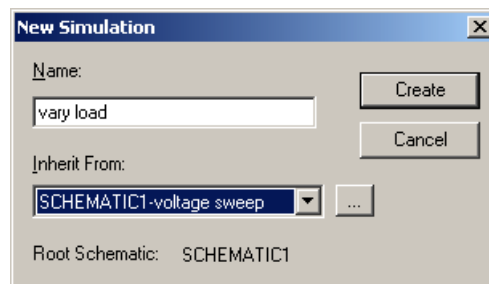
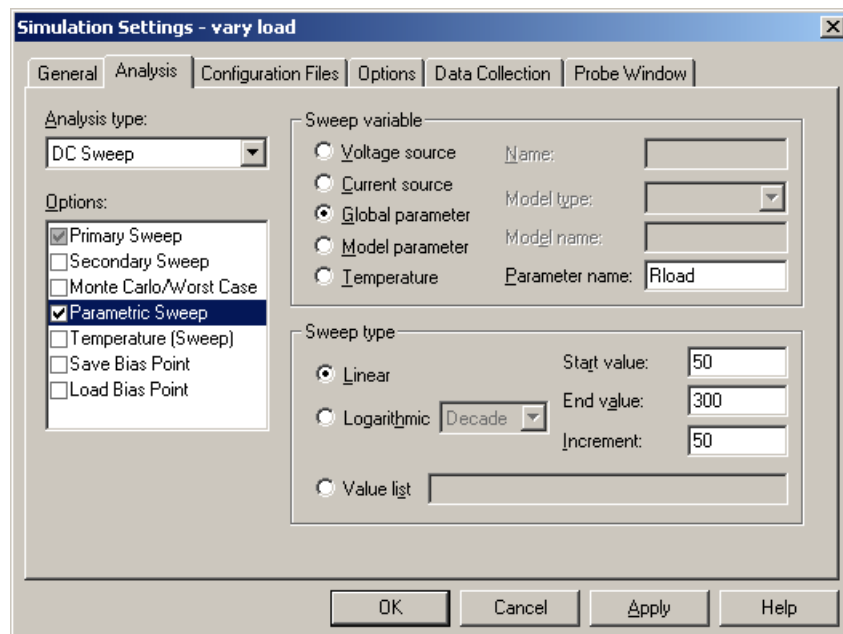
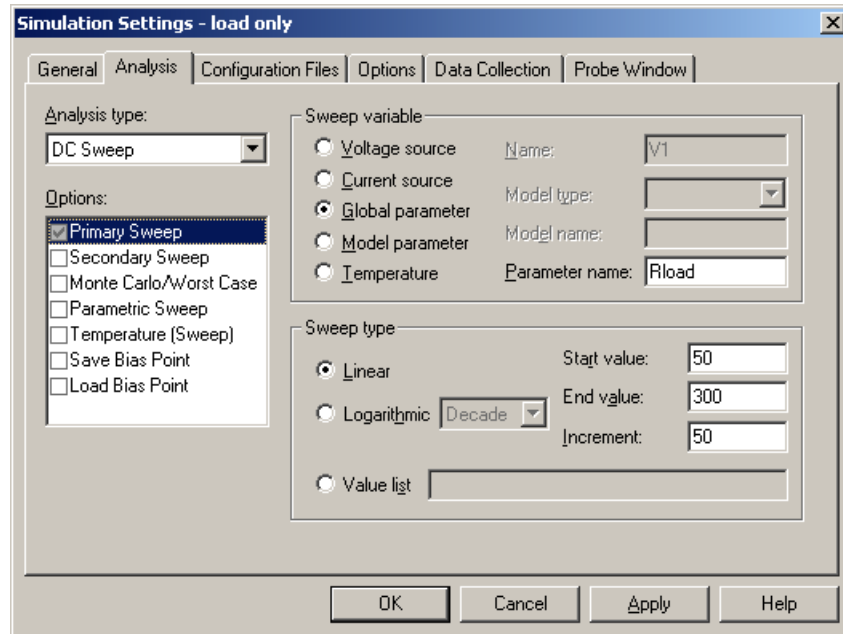
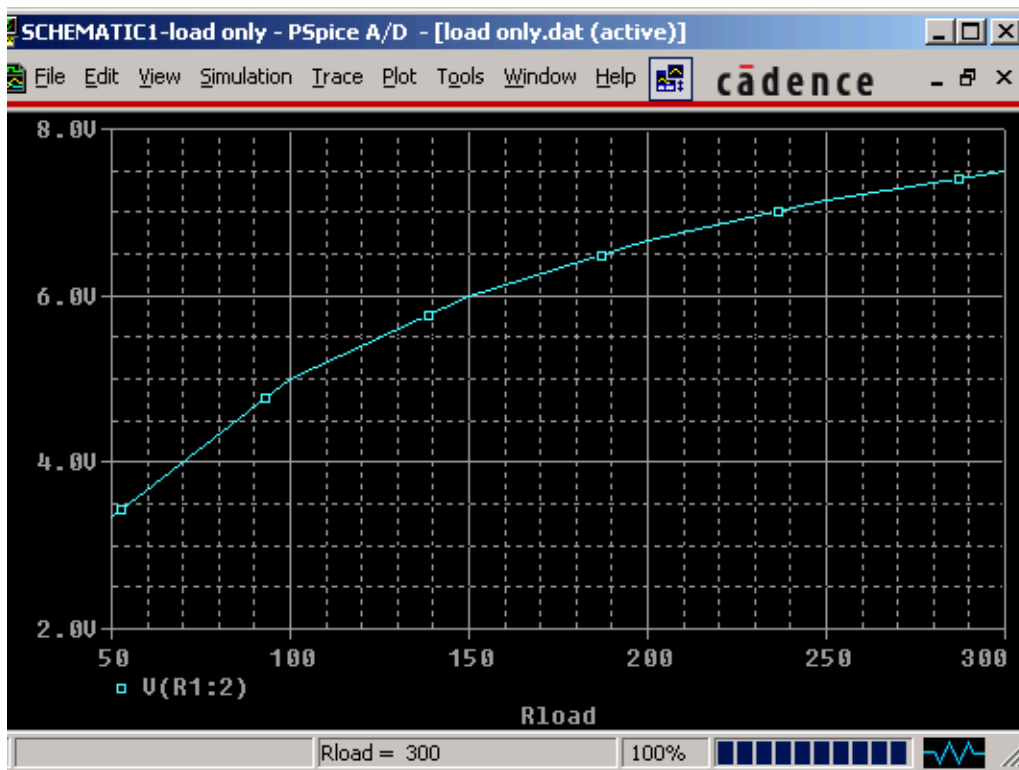

Figure 21. Dialogue box to create a new simulation profile, vary load, based on the previous profile voltage sweep.
Figure 22. Simulation settings for adding a parametric sweep to the previous DC sweep.
Figure 24. Simulation settings for a parametric sweep alone. The Analysis type is DC sweep.
Figure 25. Plot of voltage as a function of Rload.
- Create a new simulation profile. This time it is a good idea to base it on the previous profile, because we just want to add the parametric sweep to it, so select voltage sweep in the Inherit From list as in figure 21 on page 17. Click OK, which brings up the usual Simulation Settings box shown in figure 22 on page 17.
In the previous simulation we performed a DC sweep for each value of the parameter. In fact the DC sweep is pointless because it just gives a straight line. We could instead plot the voltage as a function of R_{load} , keeping $V1$ constant at its original value of 10 V. In other words, we vary the parameter alone. This isn't done very often but is appropriate here. Figure 24 shows a suitable simulation profile. It is set up as a DC sweep although we do not sweep either a current or voltage. It looks rather like figure 22 on page 17 except that the parameter is used for the primary sweep, not the parametric sweep.
Figure 25 on the following page shows how the voltage depends on R_{load} . The curve would be smoother if more points were requested by reducing the increment in figure 24.